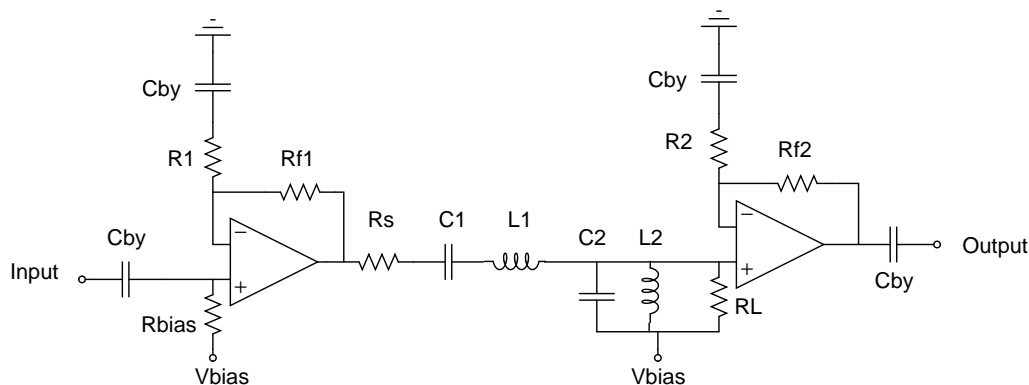

Figure 2: IF Amplification and Filtering
Your task for the week is to design and build the circuit shown in Figure 2. Notice that the incoming signal is ac coupled, amplified by the non-inverting amplifier, band-pass filtered by the L_1, C_1, L_2, C_2 combination, and finally amplified again by the second op-amp. We suggest the following stepwise procedure for realizing this filter/amplifier:
- **Topologically Speaking:** Compare the topology we have given you in Figure 2 to the two possibilities in the *Cookbook*. Given the way we classically model op-amps, why did we choose the topology we did? Note that each topology is symmetric, so you can reverse the order of the LC chains in either topology and still have a valid filter (which is what we have done).